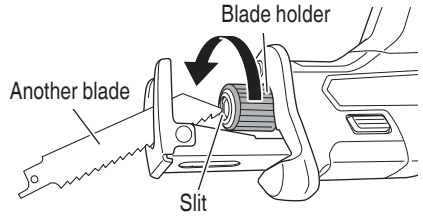

Fig. 13
- (1) If a part of the broken saw blade is sticking out of the small slit of the blade holder, pull out the protruding part and take the blade out.
- (2) If the broken saw blade is hidden inside the small slit, hook the broken blade using a tip of another saw blade and take it out. (Fig. 13)